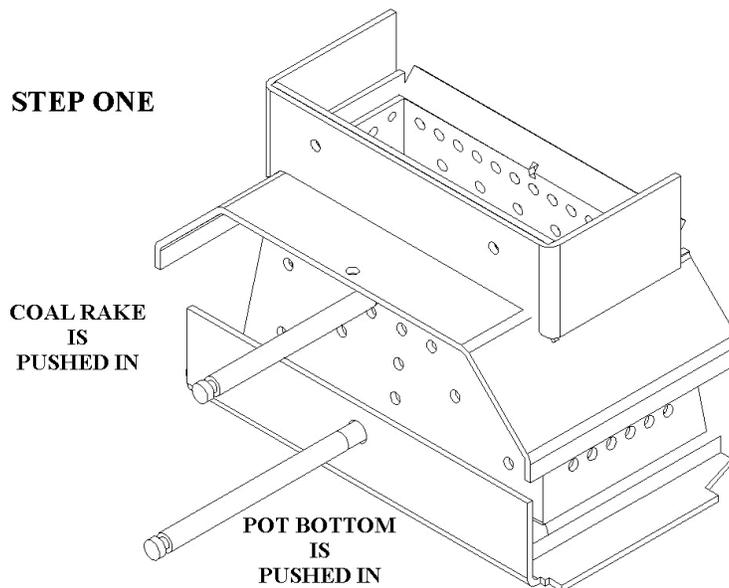

Figure 24
**Step 1 - The Coal Rake.** (See figure 24) The first step is to open the door and add a ¼ cup of the **starter** pellets on top of the coals. Then push the coal rake in and separate the burning coals from the top of the clinker. To push in the Coal rake, use the Rod Handle tool that came with the unit.